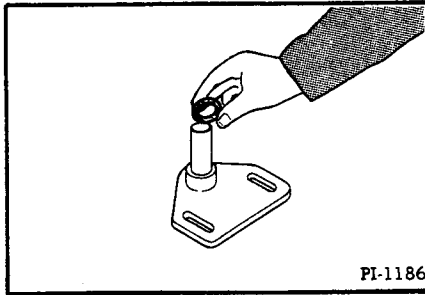

Fig. 91 Installing Inside Thrust Washer
6. Install the inside thrust washer (Figure 91).